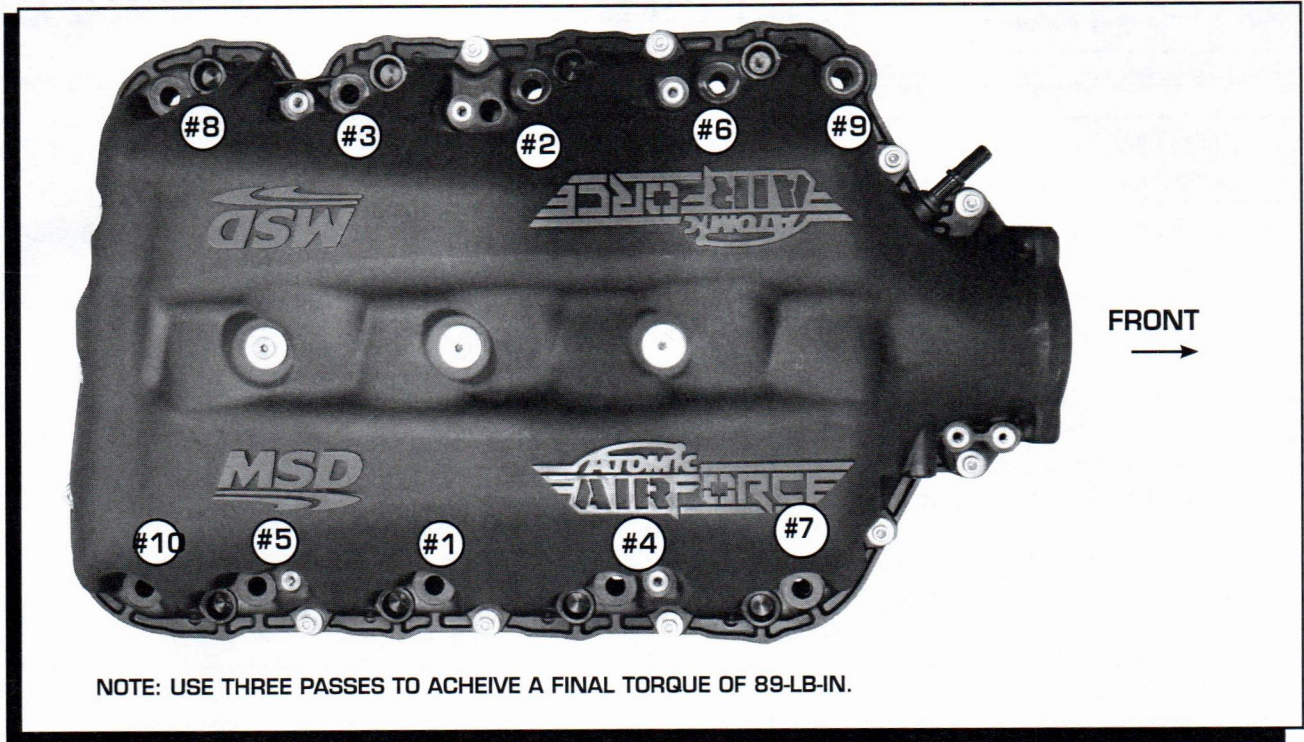

Figure 13 Intake-to-Cylinder Head Torque Sequence.
6. Tighten the 10 compression limiter bolts using the sequence shown in Figure 13. Use multiple passes (a minimum of three are recommended) to achieve a final torque of 89-lb-in.